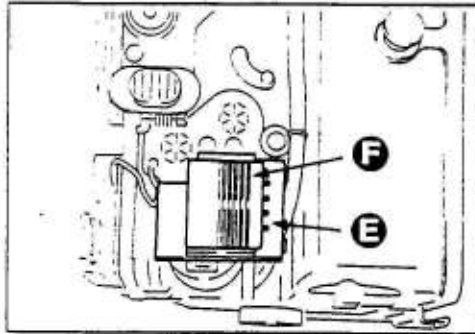

Fig. 5
1. Before reassembling right cover, insert the RC cover **F** to the RC pin base **E** from the direction RC and then assemble right cover. (See Fig. 5.)